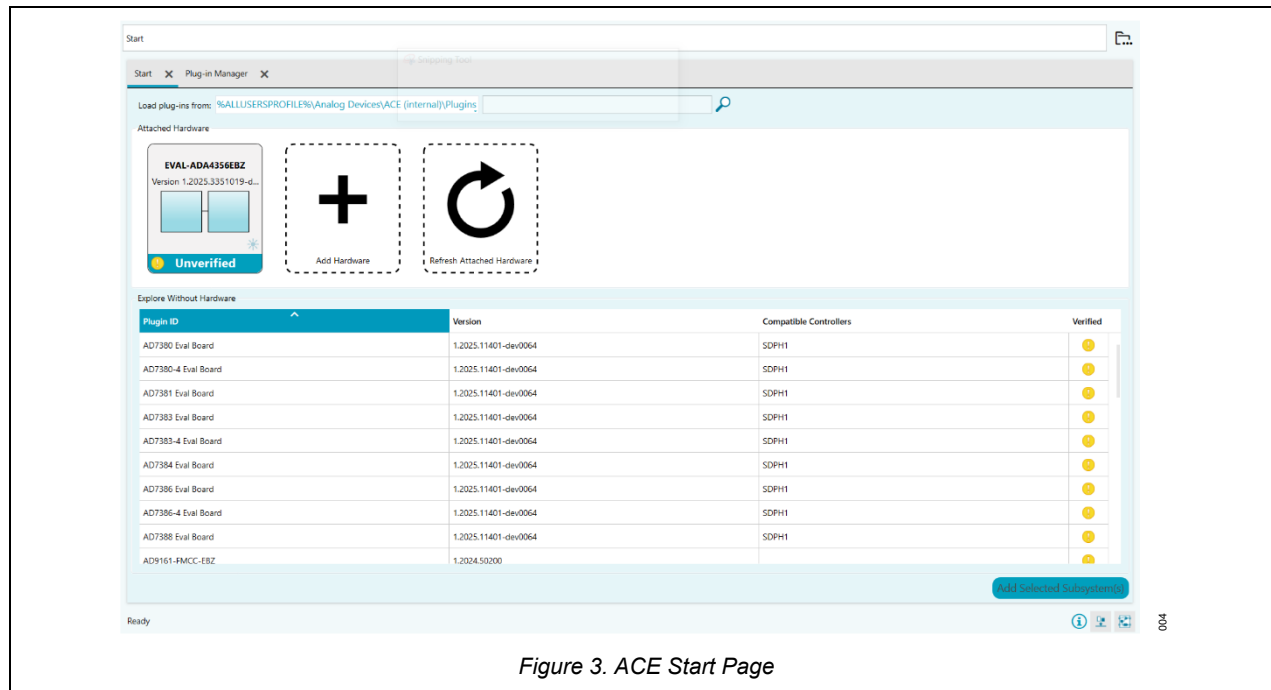

Figure 3. ACE Start Page
26. Once installation is complete, restart ACE. Upon rebooting ACE, the evaluation board hardware should be detected, as shown in Figure 3.